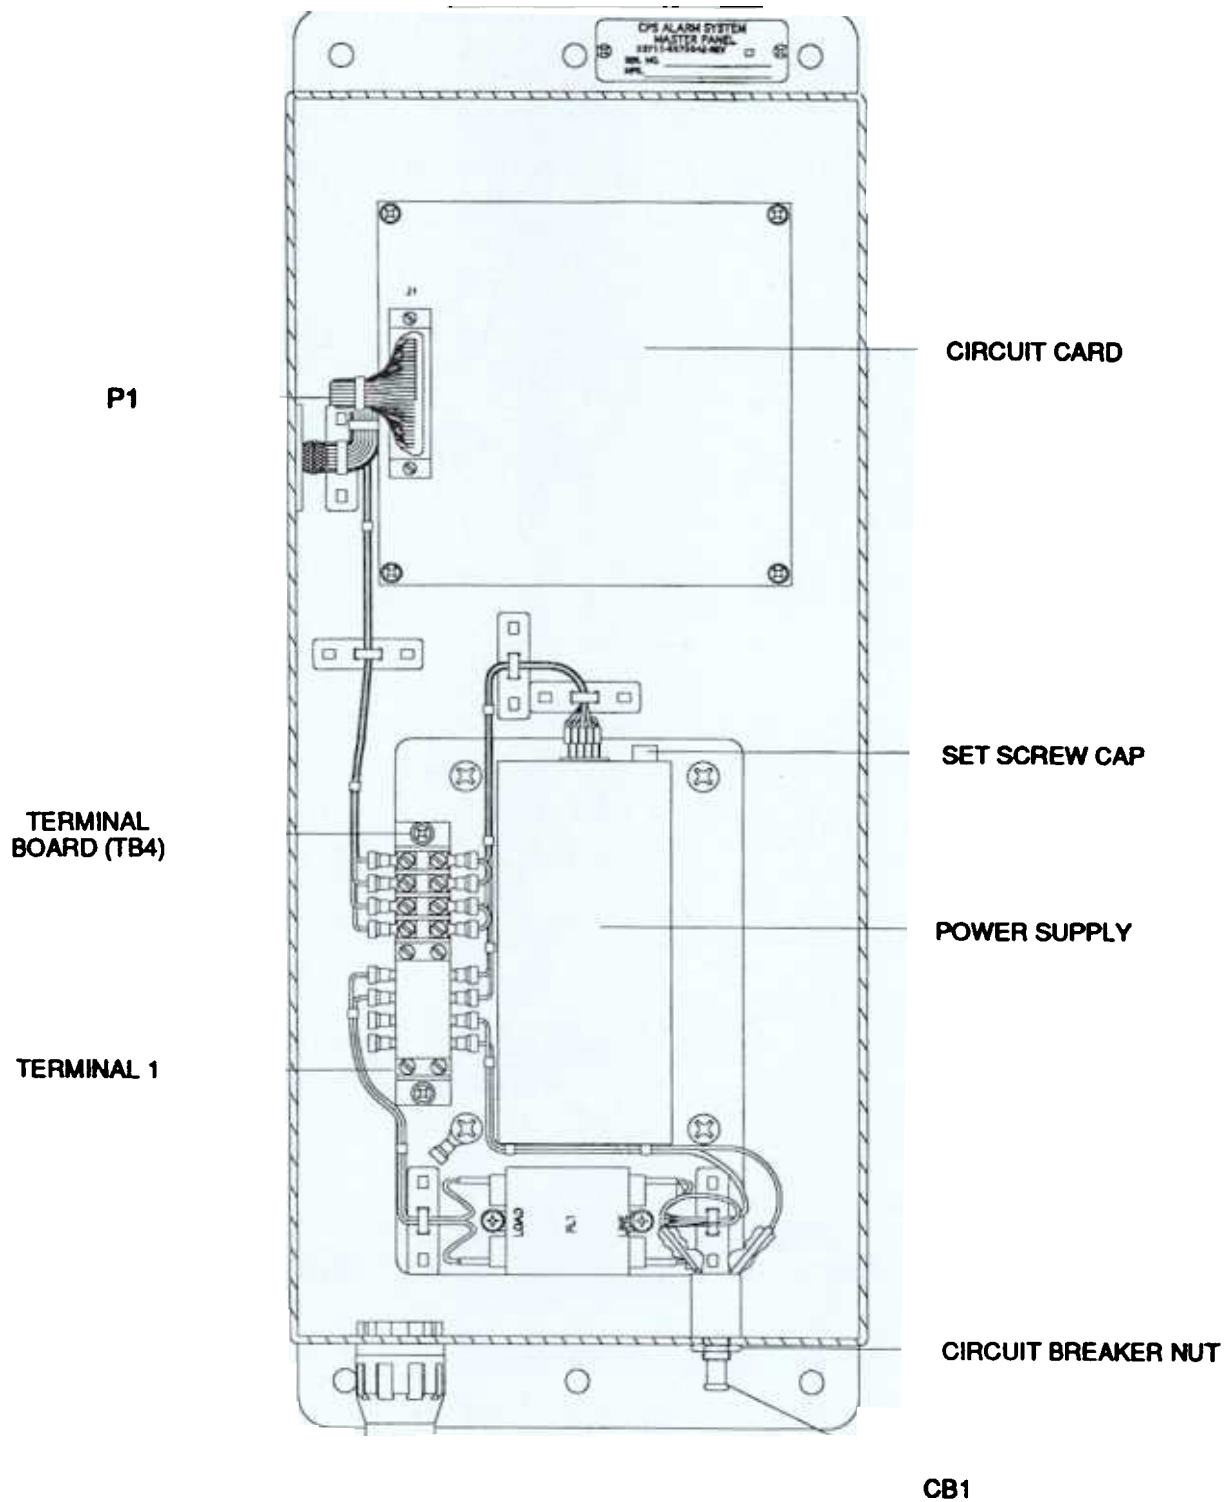

Figure 6-4. Master Panel, Inner Door Removed
- (5) At the master panel, verify that all circuit card switches are in the NORM position (figures 6-4 and 6-5). Verify that the person at the zone sensor box has performed step (4).
- (6) At master panel, observe the master zone meter of the zone undergoing alignment. The desired zero pressure range is a meter reading equal to or greater than 0.0 but less than 0.1 inches pressure. If the zone meter does not indicate 0.0 pressure, adjust the meter to it's lowest reading (but no lower than 0.0) by turning the adjustment screw on it's face plate slowly either clockwise or counter-clockwise. If the meter cannot be mechanically adjusted to less than 0.1 inch pressure, adjust potentiometer
- e. Open front and inner panels of master panel (figure 6-4).
- f. Locate the terminal board TB4 on power supply assembly and remove plastic shield fastened at terminals (1) and (6).
- g. Remove yellow and gray wires from terminals (2) and (3). Isolate wires so they do not make contact with terminal board.